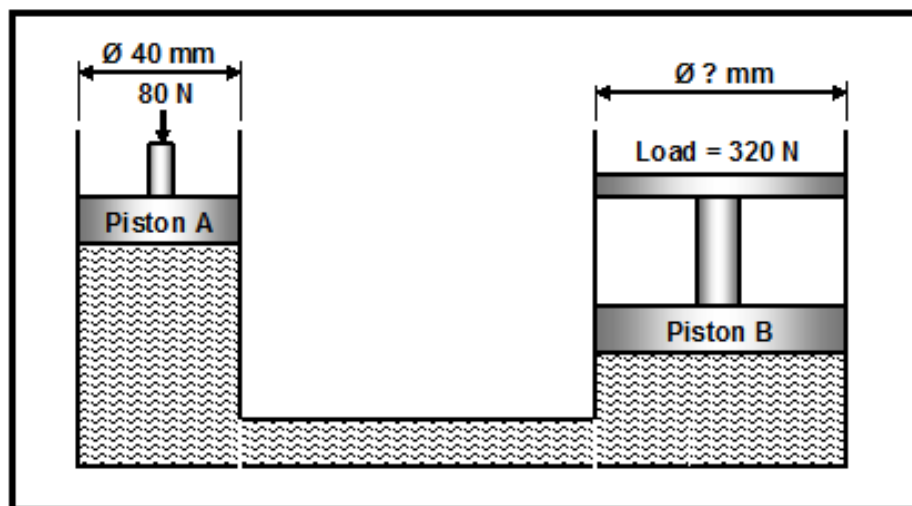

FIGURE 9.1
- 9.5 A hydraulic system is used to compress scrap metals for recycling. The specifications of the system are shown diagrammatically in FIGURE 9.1.